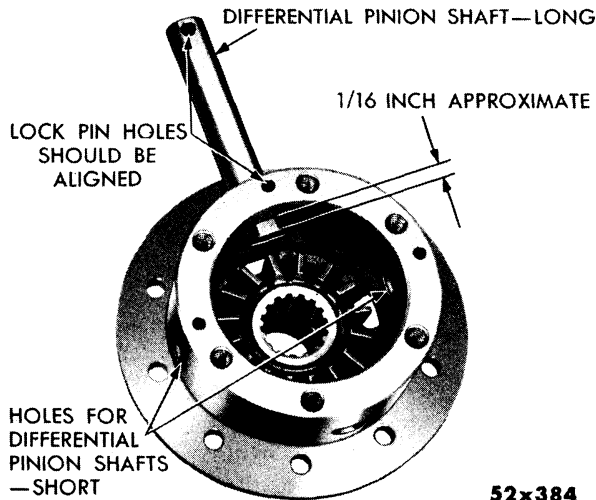

Fig. 24—Positioning the Long Pinion Shaft in Case
- (2) Line up the locking pin hole in the long pinion shaft with the hole in the differential case pinion boss (opposite boss has no pin hole). Drive the pinion shaft in case until it protrudes about $\frac{1}{16}$ inch on the inside of case, as shown in Figure 24.
- (3) Place a pinion thrust washer on the pinion so that the concave side faces the pinion. Install the pinion and thrust washer on the end of the shaft that protrudes through case. Tap shaft in case, while holding pinion up against case, until end of shaft is even with edge of pinion.
- (4) Insert the pinion shaft block with punch marked sides facing the short shaft holes. Install the axle drive shaft thrust block and continue to drive the shaft through the pinion shaft block and rear axle drive shaft thrust block.
- (5) Install the opposite pinion and thrust washer. Drive the shaft into final position in case, making sure locking pin holes are lined up.
- (6) Drive one of the short pinion shafts into either of the remaining holes until the shaft protrudes about $\frac{1}{16}$ inch on the inside of case. (Be sure the lock pin holes line up.) Install pinion and thrust washer and continue to drive shaft until shaft enters hole in the pinion shaft block. Install the other short shaft, washer and gear in the same manner.